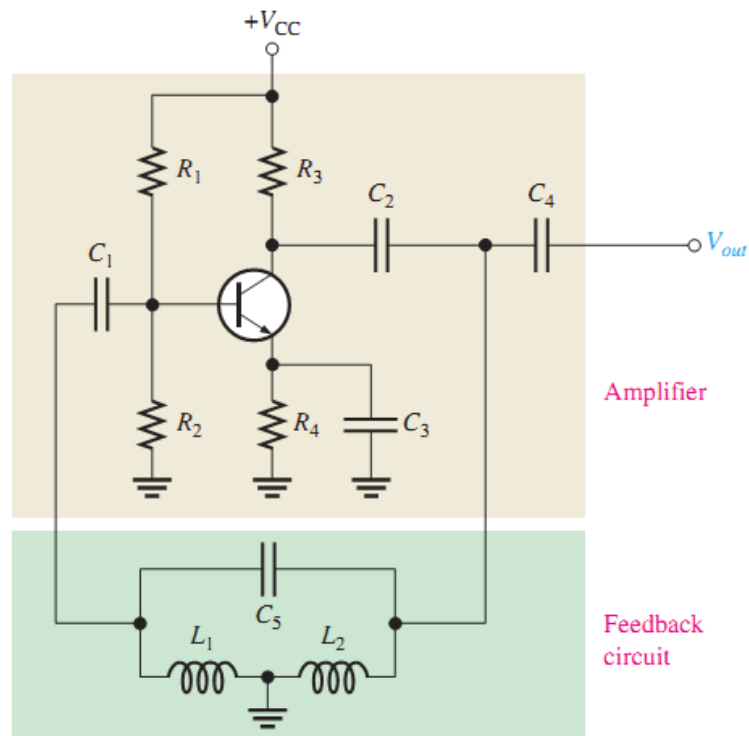

Figure 20 A basic Hartley oscillator.
- The Hartley oscillator is similar to the Colpitts except that the feedback circuit consists of two series inductors and a parallel capacitor as shown in Figure 20.